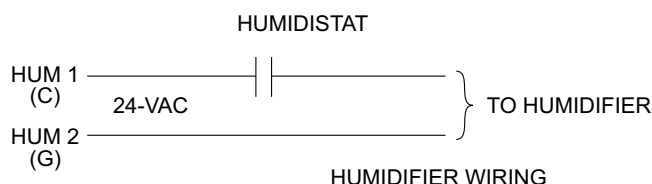
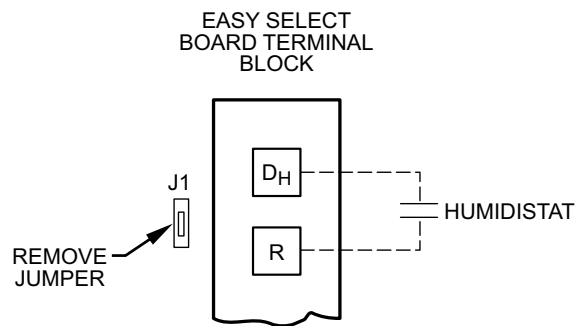

Fig. 22 – Humidifier Wiring
Fig. 23 – Humidistat Wiring for De-Humidify Mode
Easy Select Board terminals HUM1 and HUM2 are provided for direct connection to the low-voltage control of a humidifier through a standard humidistat (see Fig. 22). These terminals are energized with 24VAC when G thermostat signal is present (see Fig. 23). Alternately, the 24VAC signal may be sourced from the W and C terminal block connections when electric heaters are used as primary heating source.
Latent capacities for systems using the Fan Coil are better than average systems. If increased latent capacity is an application requirement, the field wiring terminal block provides connection terminals for use of a standard humidistat. The Fan Coil will detect the humidistat contacts opening on increasing humidity and reduce its airflow to approximately 80% of nominal cooling mode airflow. This reduction will increase the system latent capacity until the humidity falls to a level which causes the humidistat to close its contacts. When the contacts close, the airflow will return to 100% of the selected cooling airflow. To activate this mode, remove Jumper J1 and wire in a standard humidistat (see Fig. 23).
5. Verify low-voltage control signals to motor. The motor receives its control signals through the 12-pin plug (PL-1) on Easy Select Board and 16-pin plug on wiring harness (see Troubleshooting Example). The combinations of pins energized will determine motor speed (see Fig. 23). See Fig. 20 for circuit board, low-voltage screw terminals energized and for voltage present at each pin on 12-pin plug (PL-1). See Fig. 20 for pin number on 16-pin plug which should have voltage when Easy Select Board screw terminals have 24VAC.